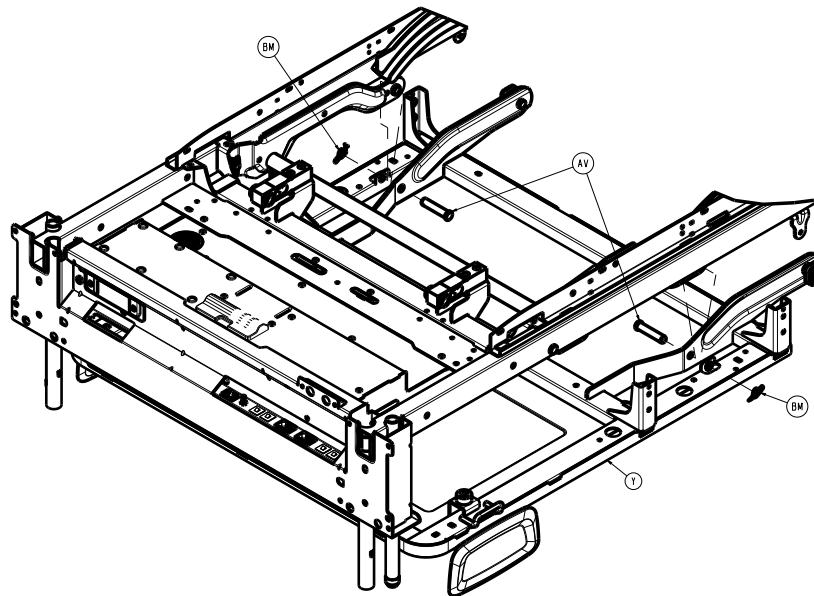

Figure 22 – Removing the cover
19. Using needle nose pliers, remove the left side upper Fowler link rue clip (BM) and clevis pin (AV) (Figure 22). Save the rue clip and clevis pin.
21. Using needle nose pliers, remove the right side upper Fowler link rue clip (BM) and clevis pin (AV) (Figure 22). Save the rue clip and clevis pin.